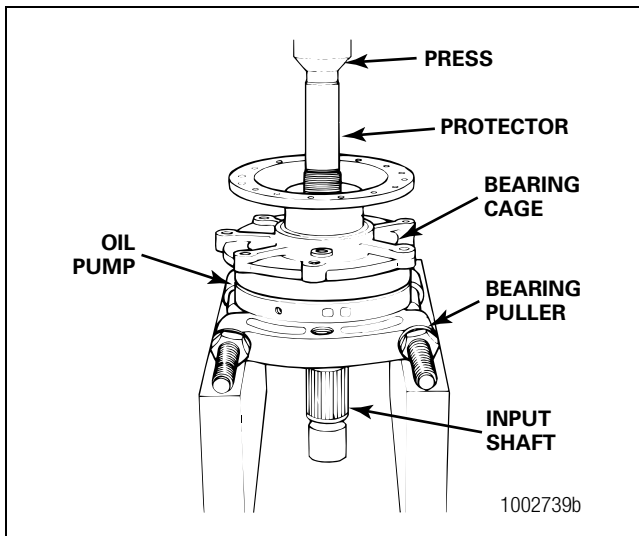

Figure 3.35
- B. Place the assembly on a press so that it rests on the puller. Figure 3.35.
- C. Place a protector on top of the threaded part of the shaft. Press the input shaft from the assembly. Remove the bearing puller. Figure 3.35.